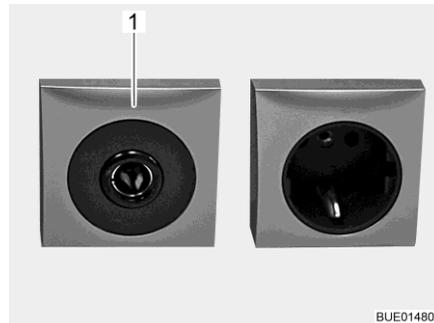

Fig. 180 12 V/10 A socket
- ▷ Only connect devices with a maximum of 10 A to the sockets (Fig. 180,1) of the 12 V power supply.